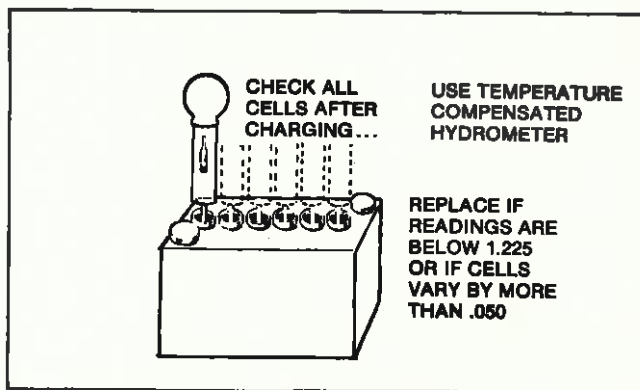

Fig. 66 — Checking 12V Battery Cells (Lead Acid — Wet Cell — Dry Charge)
The dry charge battery is manufactured with fully charged plates. Electrolyte must be added at the time that the battery is placed in service. Before activating a dry charge battery, read and follow the manufacturer's recommended procedure. Fig. 66.
3. With battery fully charged, check specific gravity readings of each cell with a Battery Hydrometer and record readings (Fig. 66). All readings should be above 1.250 (compensating for temperature). If specific gravity readings varied .050 or if **ALL** cells read less than 1.225, replace battery. Attach voltmeter clips to the battery posts, positive lead (+) to positive post of battery, negative lead (-) to negative post of battery. With ignition switch "Off" press starter button. If ignition switch and starter switch are the same switch, disconnect spark plug lead from plug and turn switch to "Start." Voltmeter should read 9 volts or more while cranking engine. If less than 9 volts, replace battery.